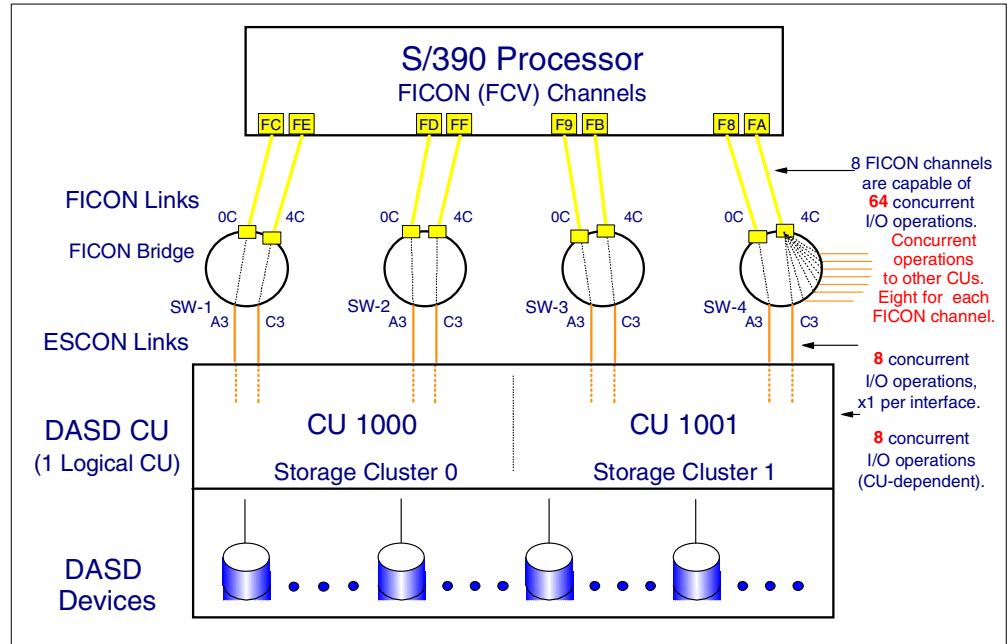

Figure 68. FICON (FCV mode) channel configuration - 8 paths and 1 LCU
- Part of a CHPID report is shown in Figure 68.
When connecting the ESCON configuration shown in Figure 64 on page 85 to FICON (FCV mode) channels (requiring the same I/O concurrency) it should look like that shown in Figure 68 on page 91.
The FICON (FCV mode) configuration shown in Figure 68 has the following I/O concurrency:
Figure 69 shows the I/O definition support (IOCP statements) to support the I/O configuration shown in Figure 68 on page 91. There are eight FICON (FCV mode) channel paths defined to access each of the attached devices, as the I/O device statement connects to both control unit statements and each control unit statement has 4 paths defined.